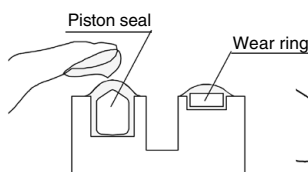
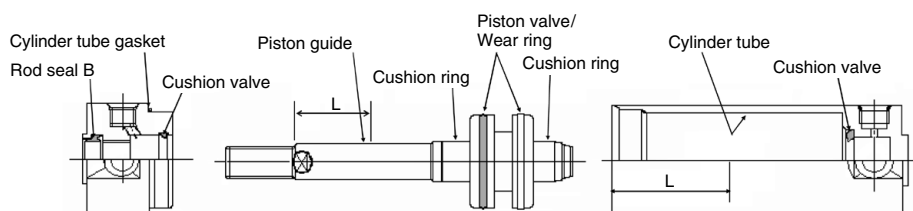

Fig. 7 Piston seal
Fig. 9 Grease application points $L = \frac{\text{STROKE}}{2}$ or 100 mm and more
- ③⑤ Piston seal: Rub grease into the seal groove and outer circumference of the seal. (Fig. 7)
- ④② Cylinder tube gasket: Lightly apply grease.
- Cylinder component parts: Apply grease to each component parts of the cylinder in Fig. 9.